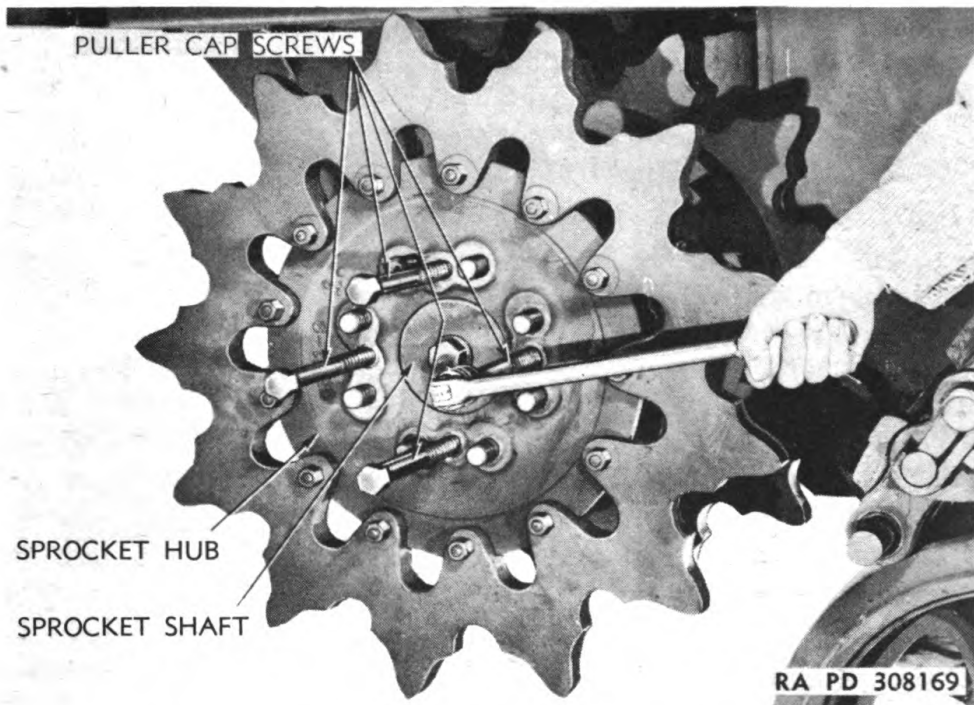
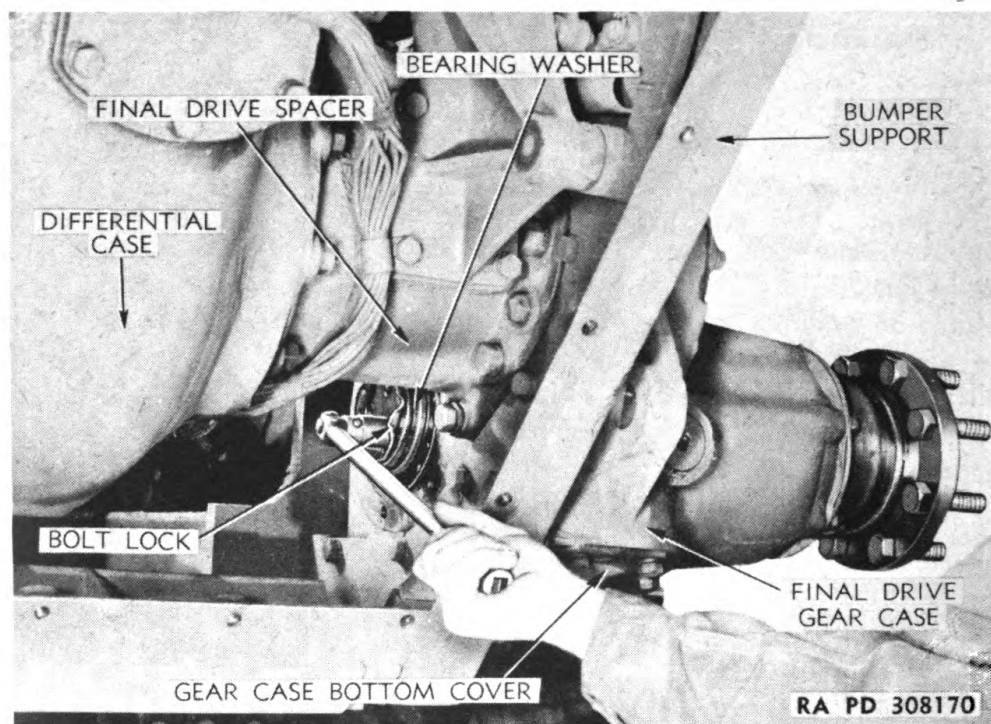

Figure 67 — Removing Sprocket Hub Assembly
Figure 68 — Removing Bearing Lock and Washer
b. **Removal of Complete Final Drive Assembly** (fig. 68). Disconnect tracks. Remove front plate from bumper supports by removing the 22 retaining cap screws. Place blocks between bottom of hull and differential case to support weight of differential and transmission. Remove the 10 bolts that attach final drive case to bumper
(1) **REMOVE SPROCKET SHAFT ASSEMBLY.** Drain oil from gear case and disconnect track. Remove the four puller hole plug cap screws from sprocket hub and install 4 puller cap screws (BCSX2CT) in their places (fig. 67). Turn these cap screws in evenly to force sprocket hub from shaft. Lift off hub. Remove front plate from bumper supports by removing 22 cap screws. Remove bottom cover from gear case by removing 12 cap screws. Remove the 6 cap screws from inner shaft bearing cap and remove the cap. Bend bearing washer bolt lock away from cap screw heads and remove the 3 cap screws (fig. 68) and the lock, bearing washer, and adjustment shims. Remove the 6 cap screws from seal guard and plate at outer hub of case, then remove the puller hole plug bolt from center of sprocket shaft and install the adapter (A-347829) for shaft puller (41-P-2957-100) (fig. 147) tightly in its place. Screw bolt of shaft puller tightly into adapter and operate sliding ram to pull shaft out of inner bearing. After shaft has been pulled out of inner bearing, remove shaft puller
d. Install Sprocket Shaft and Final Drive Gear. Insert final drive gear into gear case and support gear with center of gear in line with holes for shaft. Cement gasket to seal plate, then insert sprocket shaft through case, turn shaft so splines in end of shaft line up with splines in gear, and push shaft through gear. Install spring washer, bearing spacer, bearing cone, and roller assembly on inner end of shaft, then install bearing adjustment shims totaling 0.075 inch in thickness, bearing washer, and bolt lock at end of shaft with 3 cap screws (fig. 68). Adjust bearings so there is no end play in shaft and shaft can be turned by hand with a very slight drag. This adjustment is made by removing or adding shims under bearing washer. When correct adjustment of bearings has been made and cap screws in end of shaft tightened, bend sides of bolt lock against cap screw heads.